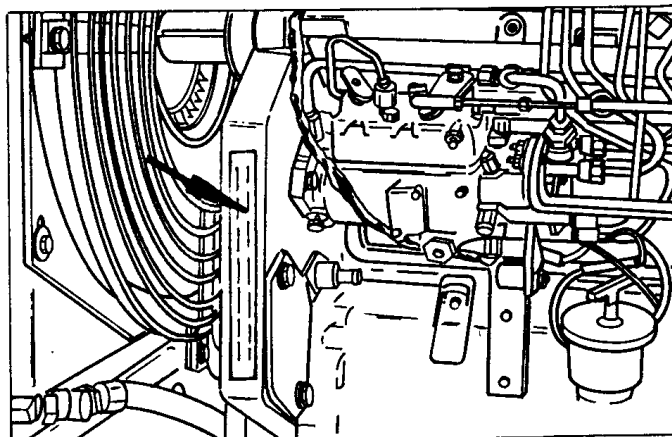

Fig.1.5. Engine Serial Number Plate
- The engine serial number plate is located on the left hand side of the engine in the space designated "Engine serial number" (Fig. 1.5).